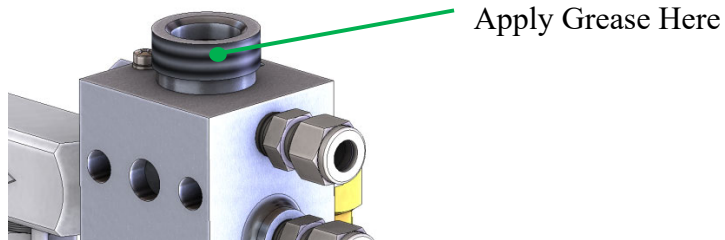

Figure 55: Lower Threads of Pilot Body (Pilot Shown Upside Down)
39. Grease the lower threads of the pilot body with anti-seize. See Figure 55.